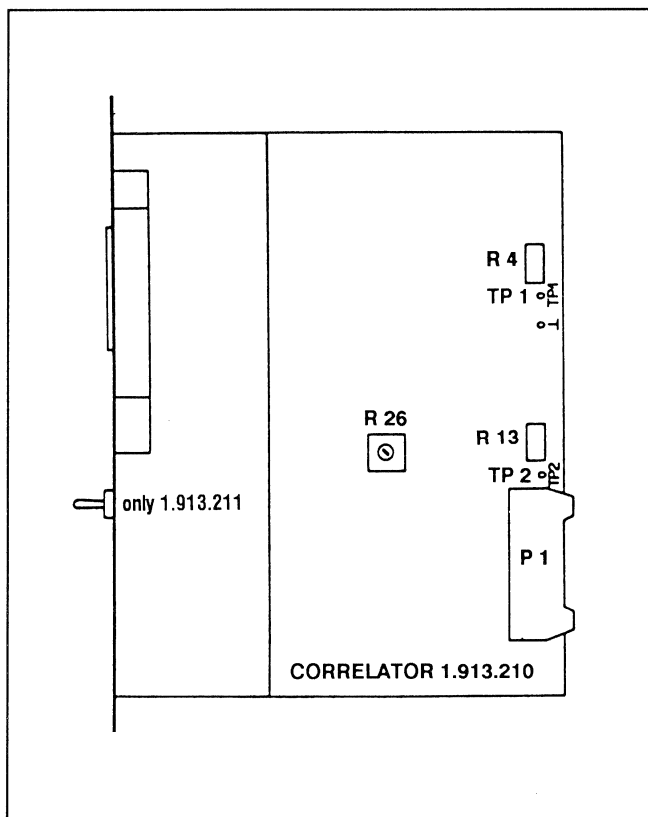

Fig. 22
- Adjust with R4 (Fig. 22) and R13 to -18 dBu or 100 mVAC measured at testpoint 1 (TP1) and testpoint 2 (TP2).